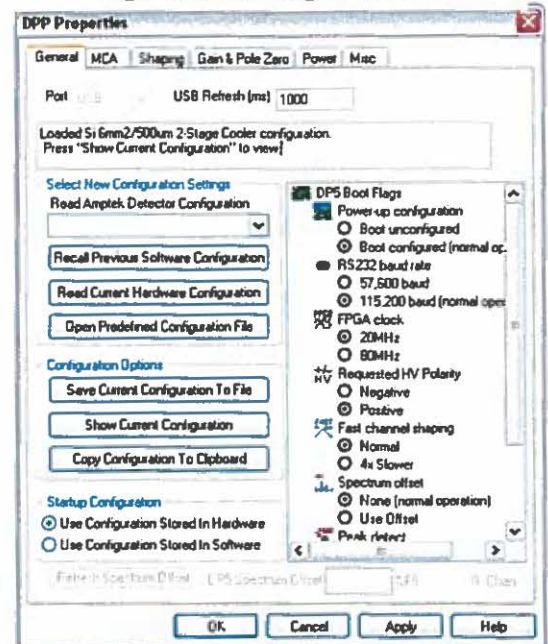

Figure 3: Properties dialog box.
5. To select a configuration select "DPP Setup" under the "DPP" menu in the software or by clicking the "acquisition setup" button on the toolbar. The dialog box shown in Figure 3 will appear. The configurations can be selected through the dropdown menu labeled "Read Amptek Detector Configuration."